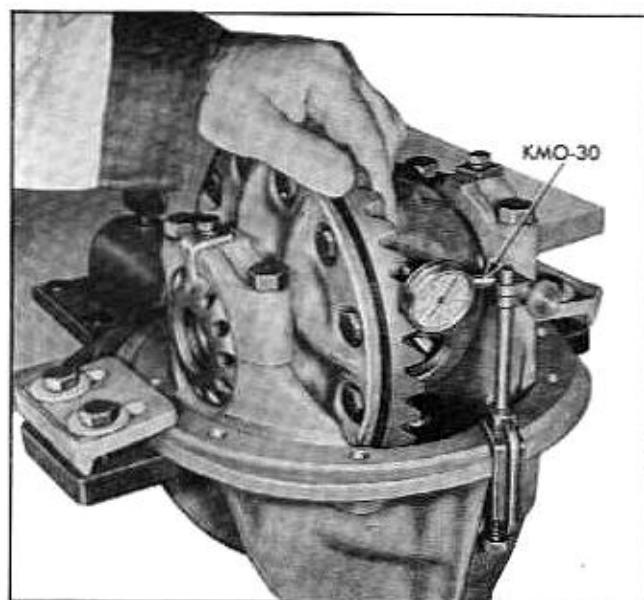

Fig. 4-15 Checking Backlash With Indicator KMO-30 Set
1. Check backlash between ring gear and pinion using indicator set KMO-30 (Fig. 4-15). Backlash should be between .003" and .012", checked at two or more equally spaced points around ring gear. If backlash is outside limits, it will be necessary to move gear away from the pinion to increase backlash or